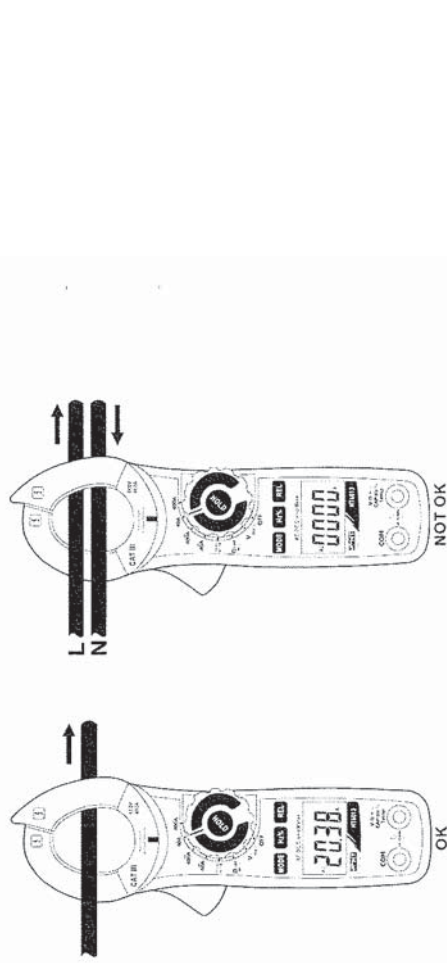

Fig. 9: Use of the clamp for AC and DC current measurement
4. On DC current measurement the "-" symbol at display means that the meter is connected in the opposite side compared with current direction (see Fig. 9)